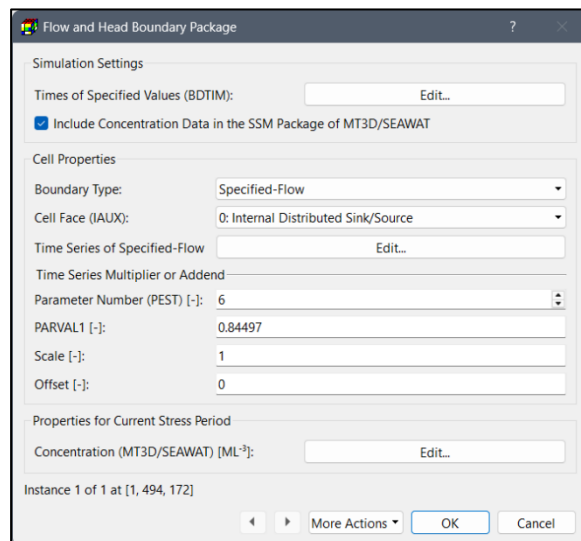
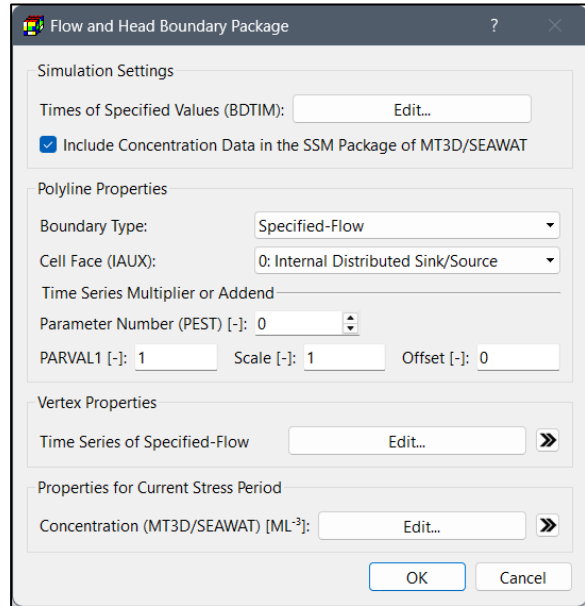
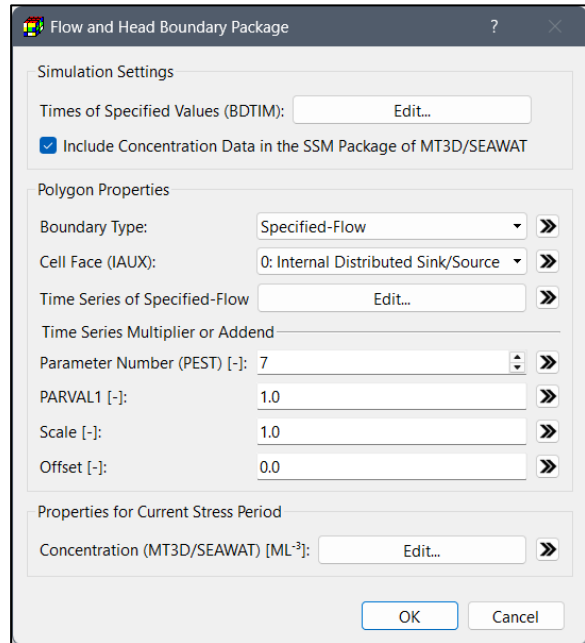

Figure 61. The Flow and Head Boundary Package dialog box for specifying cell properties
Figure 63. The Flow and Head Boundary Package dialog box for specifying vertex
Figure 64. The Flow and Head Boundary Package for specifying polygon properties
1. **All input methods:** The data entry dialog boxes (Figure 61, Figure 63, Figure 64) of all input methods include a Simulation Settings group that contains the following options:
2. **Cell-by-cell input method:** Figure 61 shows the dialog box for specifying one or more FHB1 instances to a model cell.
3. **Polyline input method:** Figure 63 shows the dialog box that is used to specify vertex/polyline properties.
4. **Polygon input method:** Figure 64 shows the dialog box that is used to specify polygon properties. These data may be applied to model cells following the rules described in Section 3.4.2.3.